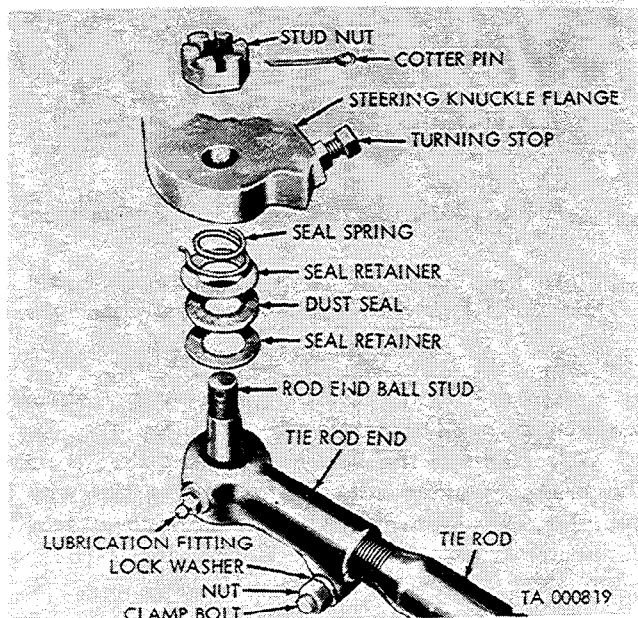

Figure 2-134. Tie rod—exploded view.
(1) Detach the left tie rod end or both tie rod ends, if necessary, from the steering knuckle flange or flanges (para 2-115 a).
(2) Loosen the nut on the clamp bolt in the left tie rod end (fig. 2-134) or both ends, as required. Turn the end or ends counterclockwise to increase toe-in, or clockwise to decrease toe-in.
(3) Attach the tie rod end or ends to the
(1) Remove the dust seal spring, the dust seal, and two seal retainers from each rod end ball stud (fig. 2-134). Discard seals.
(2) Remove the nut, lockwasher, and clamp bolt from each tie rod end and unscrew the ends from the tie rod.
(3) Remove the lubrication fitting from each tie rod end.
(4) Turning radius is governed by stop screws which are adjusted, then tack-welded to the steering knuckle arms. If inspection reveals the screws to be loose or missing, notify direct support maintenance personnel.
(1) Install a lubrication fitting in each tie rod end (fig. 2-134).
(2) Screw the tie rod ends on the tie rod, installing the right end at the offset end of the rod. Turn the two ends an equal amount on the rod until the distance from center to center of the ball studs is 48 $\frac{1}{16}$ inches and the lubrication fittings in both ends are toward the rear.
(3) Install the clamp bolt in each tie rod end from the front and install a lockwasher and nut on each bolt. Do not tighten the nuts at this time.
(4) Install the dust seal and related parts on each ball stud. Place a seal retainer on each side of the dust seal, install the parts on the ball stud, and install the dust seal spring with the larger diameter down.
(5) Insert the ball studs up through the openings in the flanges. Install the two stud nuts but do not tighten.
(6) Lubricate both tie rod ends with automotive and artillery lubricating grease.
(7) Measure the toe-in (para 2-114 c) and adjust (para 2-114 d). Tighten the nuts on both tie rod end clamp bolts securely, and tighten the two